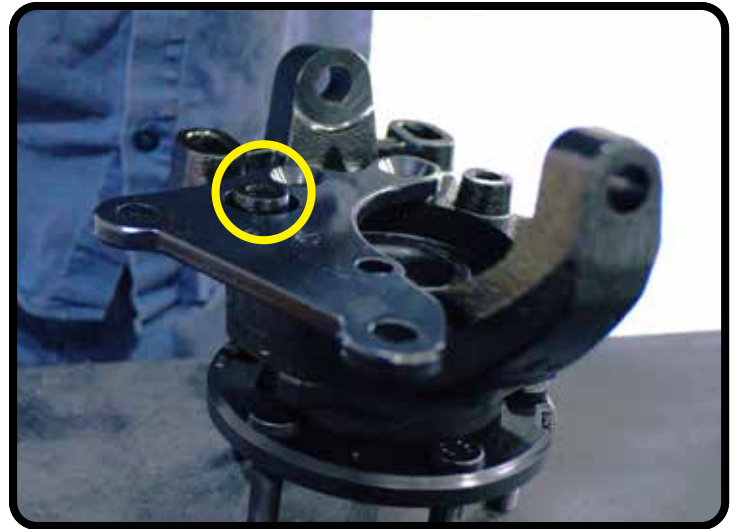

Figure 11
**16.** Position the caliper bracket on the back side of the spindle. The raised boss on the spindle should align with the large hole in the bracket, and the countersunk holes on the bottom side of the bracket should align with the mounting holes in the spindle (Figure 11).